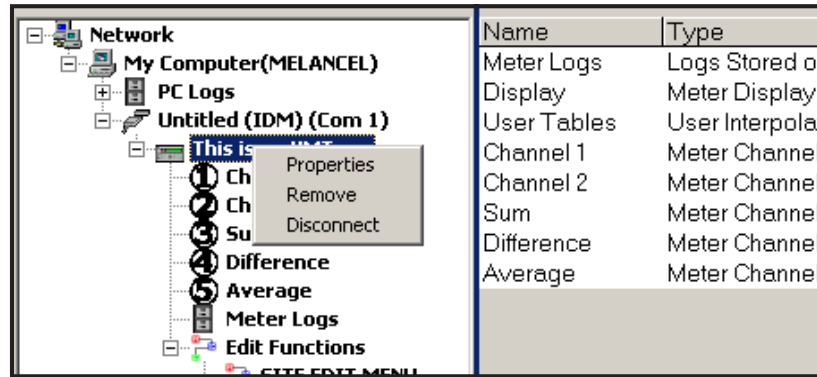

Figure 5: Properties Option in the New Meter Browser
2. Right-click on the highlighted XGF868i and click on the *Properties* option, as shown in *Figure 5* below.